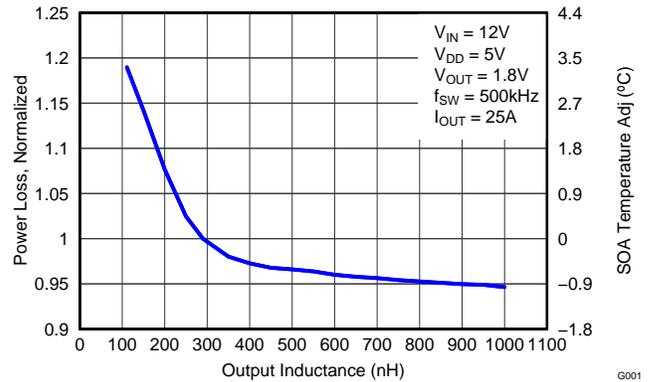

Figure 10. Normalized Power Loss vs Output Inductance
- Normalized Power Loss for output inductor \approx 1.08 (Figure 10)
- SOA adjustment for output inductor \approx 1.4°C (Figure 10)